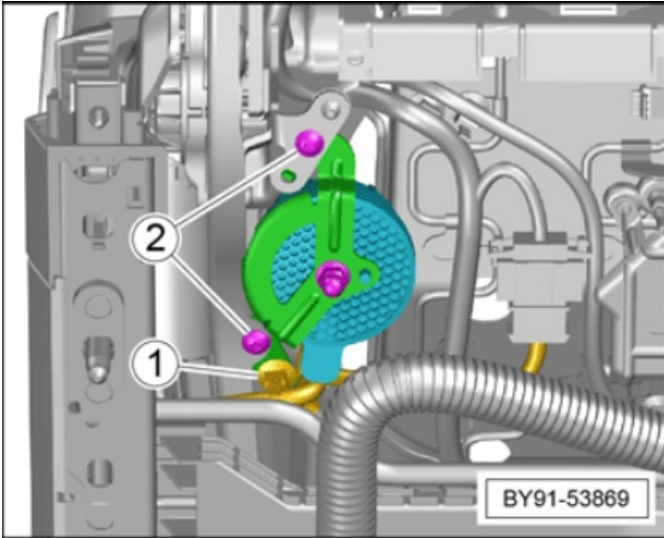

Figure 7
- Loosen the fixings -2- (Figure 7) and adjust the speaker bracket to increase clearance